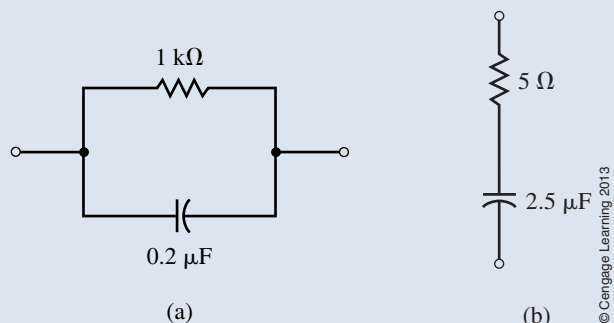

FIGURE 21–24
Consider the networks of Figure 21–24.
- Determine the series equivalent of the network in Figure 21–24(a) and the parallel equivalent of the network in Figure 21–24(b).